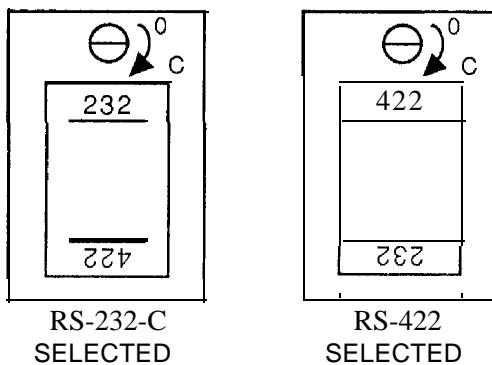

Figure 2. RS-232/RS-422 Hybrid DIP Package (for Port 2)
4. Check the RS-232/RS-422 DIP pack for desired orientation - Port 2 only. (Reference Figure 2)
Use a small screwdriver to turn the screw which releases the configuration hybrid DIP package from tie socket. Position the package with the desired interface type (RS-232 or RS-422) closest to port J1. See Figure 2 for proper orientation.